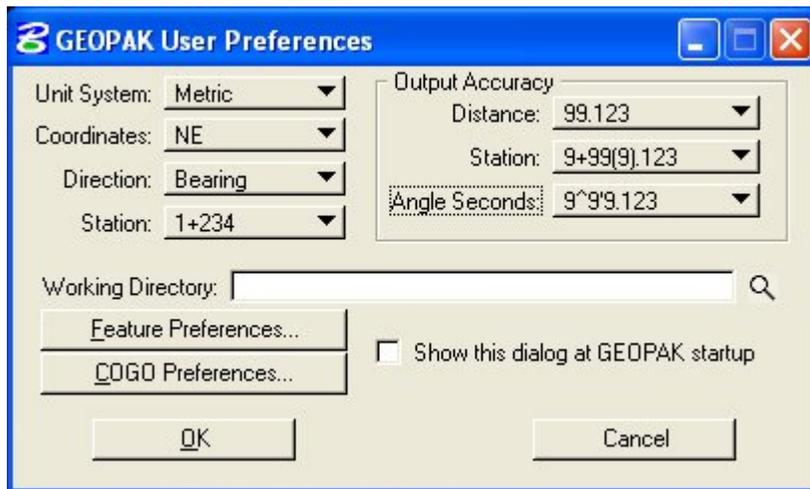

Figure 12-2: User Preferences Dialog
1. From the User Preference dialog shown on Figure 12-2, select the Feature Preferences button.